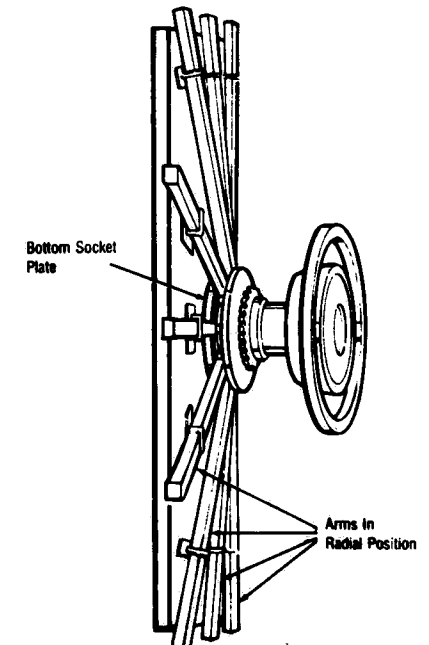

Figure 7-6. TORQUE CHECK, CHAMBER DOOR.
c. **Torque Check.** See Figure 7-6. Turn the handwheel clockwise until the arms are in the radial position. The distance between the bottom socket plate and the door should be 1-5/8 inches. Make eight turns of the handwheel. The distance between the bottom socket plate and door should be 19/32 inch. When the door is tightened with 30 to 40 foot-pounds of torque, the distance between the back surface of the bottom plate and the door should be between 3/8 and 5/8 inch.